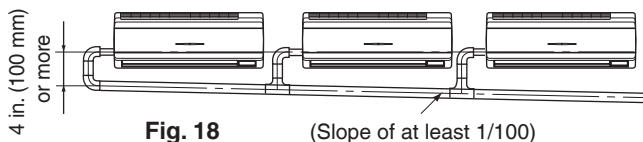

Fig. 18 (Slope of at least 1/100)
- In case of converging multiple drain hoses, install them referring to Fig. 18.